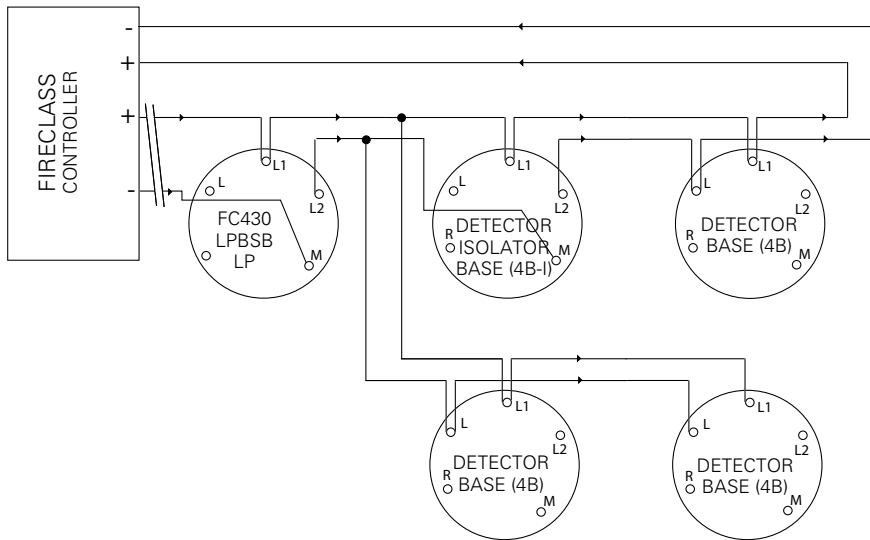

Fig. 2: Simplified Wiring Diagram for FC430LPBSB LP Beacon-Sounder Base
Cables should be selected in accordance with local standards. Cabling should be connected as shown in Fig. 2, ensuring correct polarity.
- 4 Wire the FC430LPBSB LP Beacon-Sounder Base as shown in Fig. 2, ensuring correct polarity.
- 5 Wire the FC430LPBSB LP Beacon-Sounder Base as shown in Fig. 2, ensuring correct polarity.